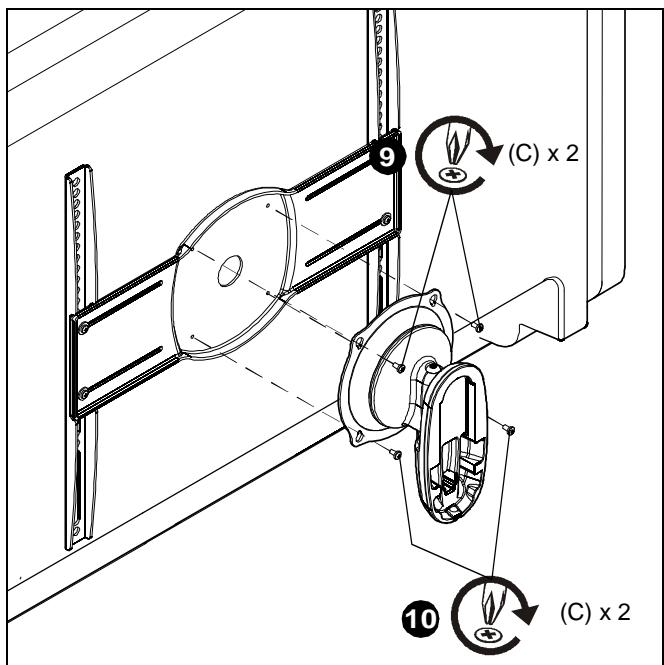

Figure 4
9. Attach J-Series mount to JSBU using two M4 x 6mm Phillips head cap screws (C) in the upper two mounting holes. (See Figure 4)
10. Complete attachment of J-Series mount using two M4 x 6mm Phillips head cap screws (C) in the lower two mounting holes. (See Figure 4)